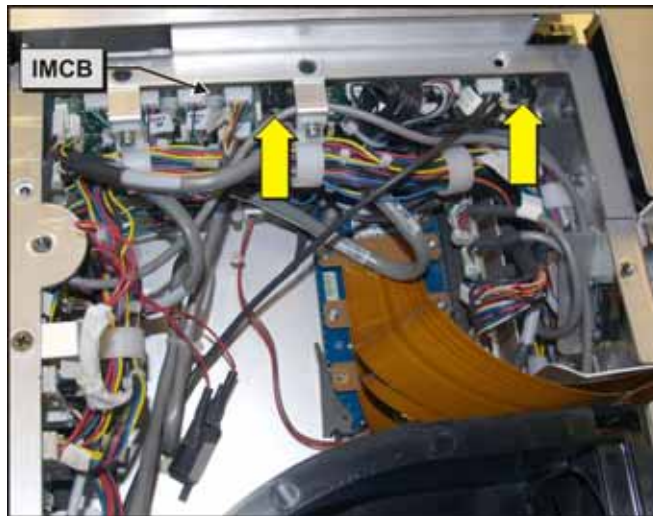

Figure 5-56 Remove IMCB
3. Loosen the captive screw securing the IMCB board. Pull the captive screw up after it is loosened. **(Figure 5-56)**